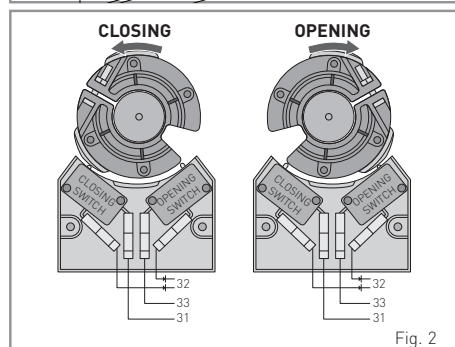
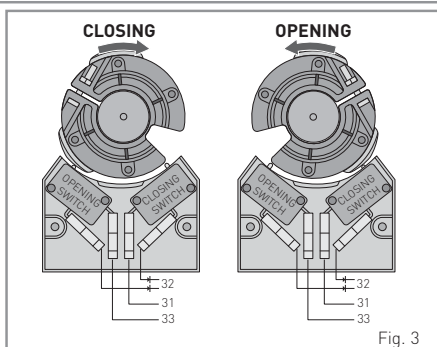

Fig. 2
Fig. 3
- Connect limit switches as shown in fig. 2 (for motors opening clockwise) or in fig. 3 (for motors opening anticlockwise).